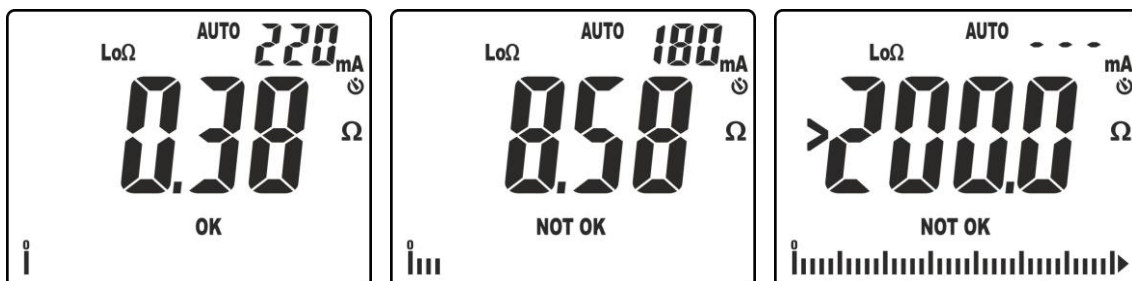

Fig. 28: Results of continuity test in AUTO mode
10. In the screen in Fig. 28 – left side, a positive test result "OK" is shown (value lower than the set threshold and test current $>200\text{mA}$). In the screen in Fig. 28 – middle, a negative test result "NOT OK" is shown (value higher than the set threshold and test current $<200\text{mA}$). In the screen in Fig. 28 – right side, a negative test result "NOT OK" is shown, corresponding to the out-of-range condition (symbol " >200.0 ").